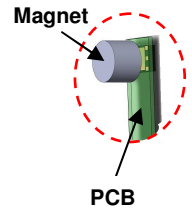

Figure 1. Biasing magnet.
- Magnets and sensors can be placed on opposite sides of a 1.5 mm thick (0.062 inch) circuit board, which provides a convenient spacing for many applications (see Figure 1).